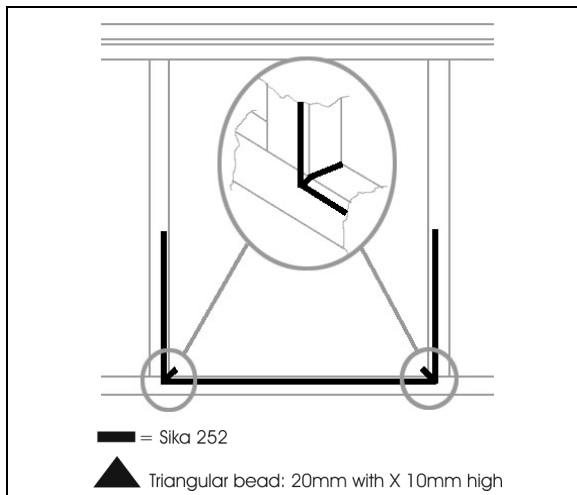

FIGURE 73 : AWNING WINDOW – SIKa 252 APPLICATION
4. Apply Sika 252 as per FIGURE 73 (triangular bead: 20mm width X 10mm high).